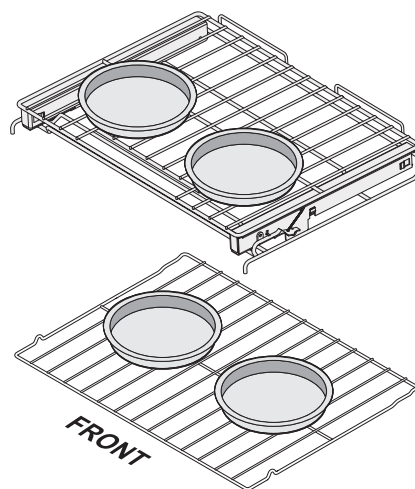

Figure 15: Suggested pan spacing
- When baking using two oven racks, position cookware as shown in Figure 15 with pans on top rack near front and lower rack pans in the middle of the rack. Allow at least 2 inches (5 cm) of space between cookware for proper air circulation.